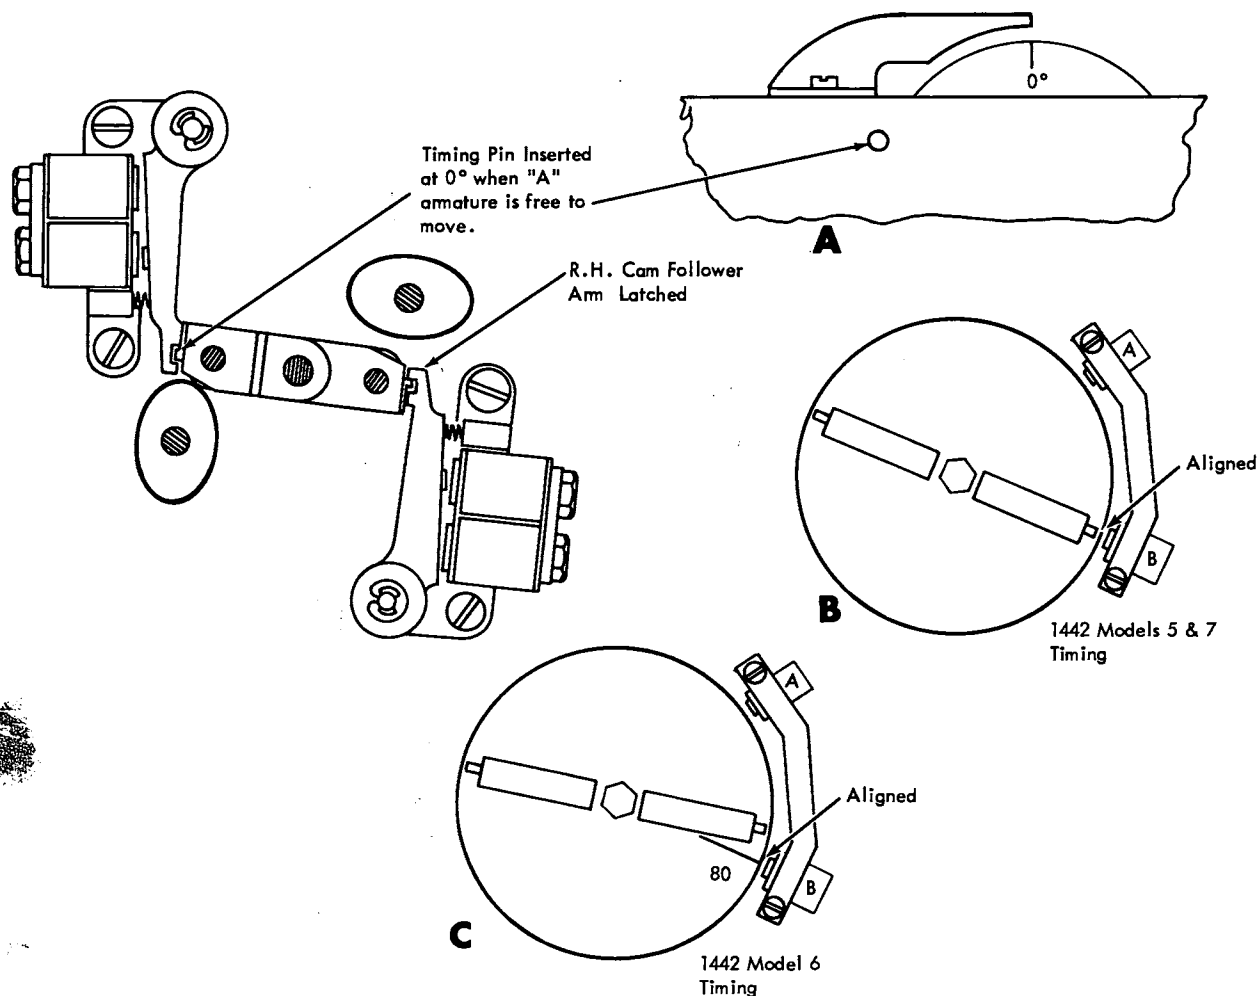

Figure 4-8. Incremental Drive Emitter Timing
2. Crank machine until punch index is at 0°; the A latch arm should be free to move (Figure 4-8).
3. Insert timing pin in punch unit timing disk (Figure 4-8, insert A).
- a. 1442-5 and 7. Align one of the magnets on the disk with the B (lower) coil (Figure 4-8, insert B).
- b. 1442-6. Align scribed line on the emitter disk with B (lower) coil (Figure 4-8, insert C).